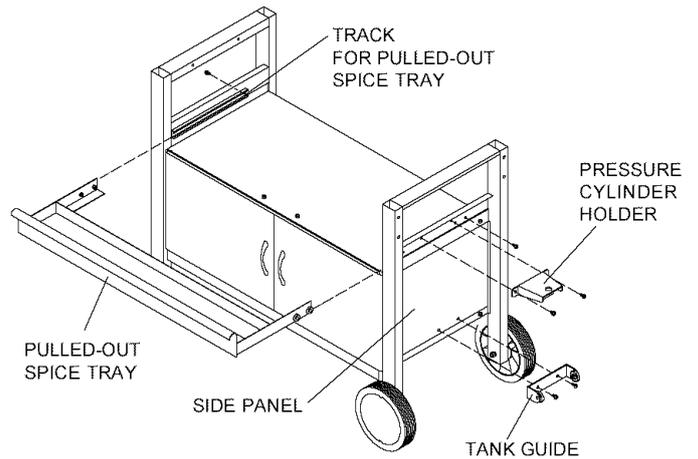

Figure 7
2. Slide the Pulled-out Spice Tray into the Tracks until it stops. See **Fig. 7**.
3. Install 2 of the 1/4"x1/2" Phillips head screws to the front of the Track. This important step prevents the Pulled-out Spice Tray from being pulled outside the tracks. See **Fig. 7**.